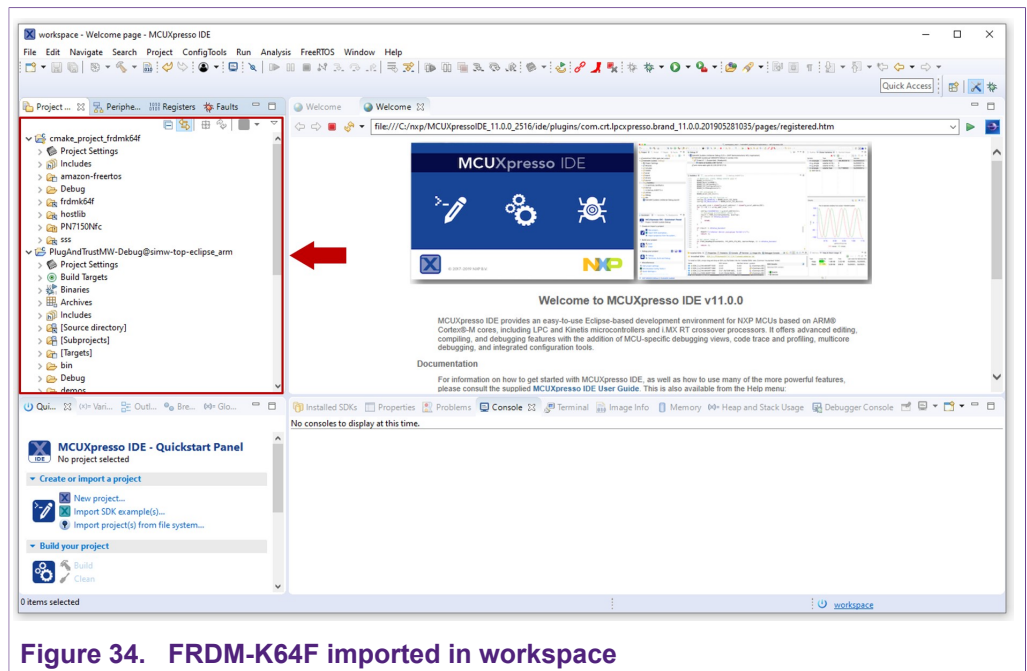

Figure 34. FRDM-K64F imported in workspace
- 5. Both The *PlugAndTrustMW* and *cmake_projects_frm64f* projects should now be imported in your workspace as shown in Figure 34: